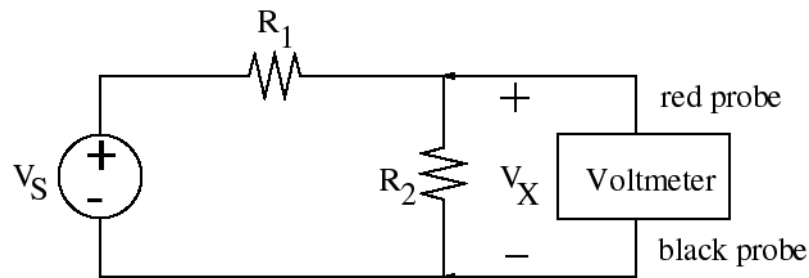

Figure 2: Voltage Divider Circuit
A voltmeter is a device for measuring voltage. It measures the voltage **drop** from the red to the black probes. The voltmeter is placed in **parallel** with the circuit element whose voltage is to be measured. Recall that two elements are in parallel when they share the same pair of nodes and hence share the same voltage. Consider the voltage divider circuit shown in Figure 2 in which the voltage across R_2 is to be measured. If the presence of the voltmeter does not affect the voltage it is intending to measure, the meter must draw no current. That is, it must act as an open circuit. An open circuit may be thought of as an infinite resistance. Hence, an ideal voltmeter has an infinite resistance. You measured the internal resistance of the voltmeter in Experiment 2 and found the value to be on the order of $M\Omega$ which is large, but certainly not infinite.
where R_M is the resistance of the voltmeter. You will not be able to see how this equation was obtained at first examination. Let the voltmeter in Figure 2 be represented by a resistance R_M . Use resistance reduction and voltage division to obtain an expression for v_x in terms of v_s . Then, clear the fractions in the numerator and denominator. Be sure to show your derivation in your lab report. Recall that an **ideal** voltmeter has infinite resistance. Letting the value of R_M in Equation 2 be infinite should result in Equation 1. Derive equation 1 from Equation 2 by taking the limit as $R_M \rightarrow \infty$. L'Hospital's Rule may be helpful.
You will now build the voltage divider circuit using the DC power supply as the voltage source v_s in Figure 2.
3. Build the circuit in Figure 2 using the 1 k Ω resistors for R_1 and R_2 .
3. Build the circuit in Figure 2 using the 10 M Ω resistors for R_1 and R_2 .
1. The voltage divider circuit in Figure 2 first with R_1 and R_2 each with a nominal value of $1\ \text{k}\Omega$ and then with a nominal value of $10\ \text{M}\Omega$.